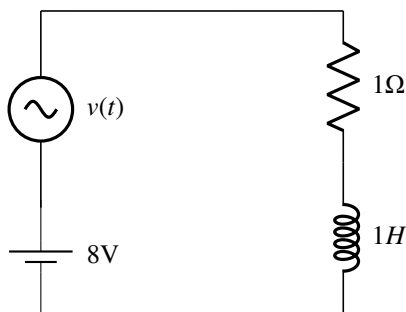

Fig. 3.1
- 3) The circuit shown in the figure 3.1 has two sources connected in series. The instantaneous voltage of AC source (in Volt) is given by  $v(t) = 12 \sin t$ . If the circuit is in steady state, then the rms value of the current (in Ampere) flowing in the circuit is \_\_\_\_\_.